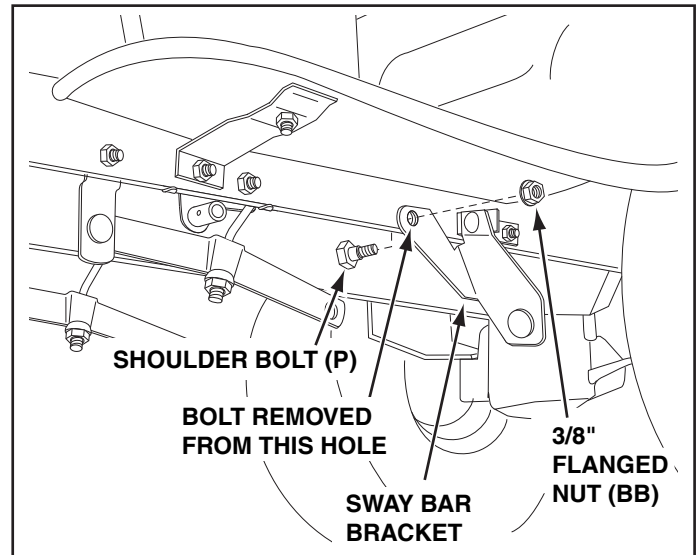

FIGURE 27 LEFT SIDE VIEW
STEP 27: (SEE FIGURE 27)
- Remove the bolt, washer and nut which fasten the sway bar bracket to the L.H. side of the tractor frame. Replace with a shoulder bolt (P) and a 3/8" flanged nut (BB). Bolt goes on inside of frame.